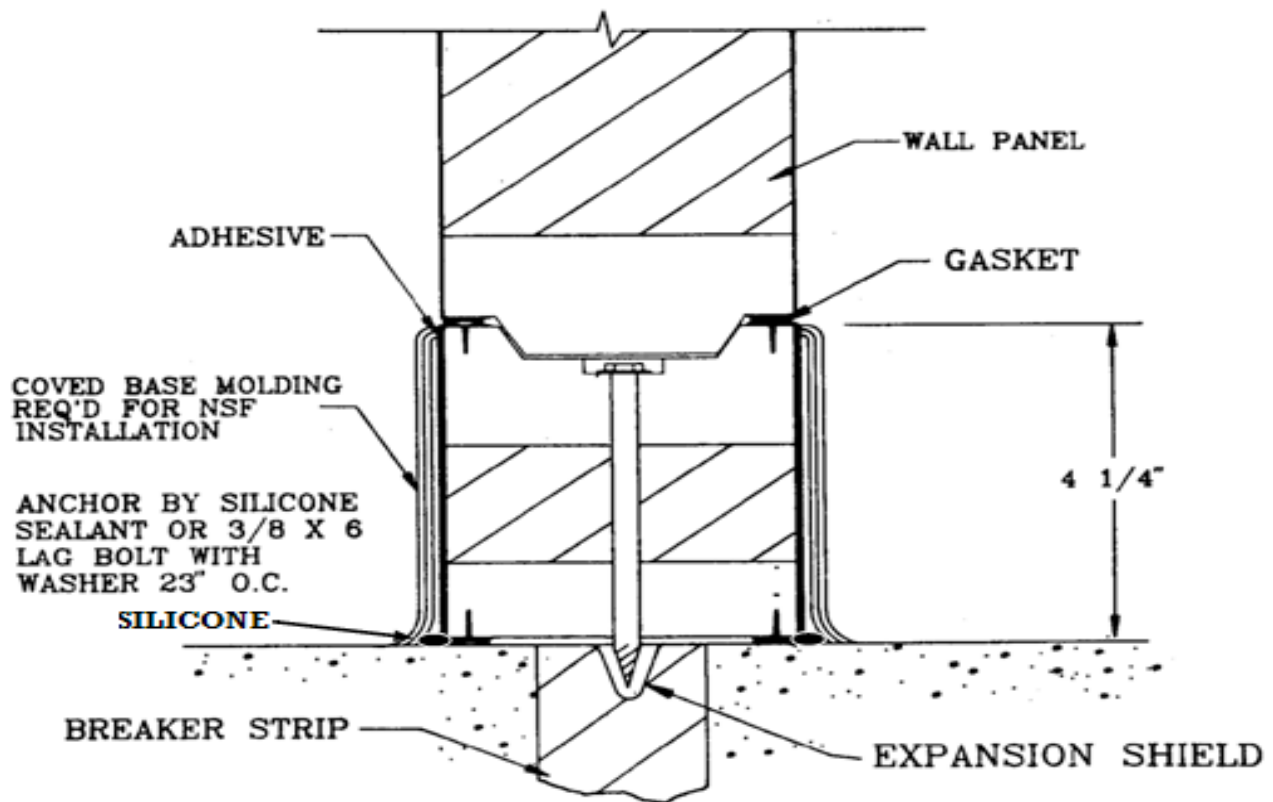

Figure 11 - Floorless Foamed Screed Section
- A. Use a 3/8" x 6" hexhead lag screw with expansion shield to drill a 3/8" diameter hole in center of screed approximately 23" O.C. and counter bore 1-1/4" x 3/8" deep (Refer to Figure 11).